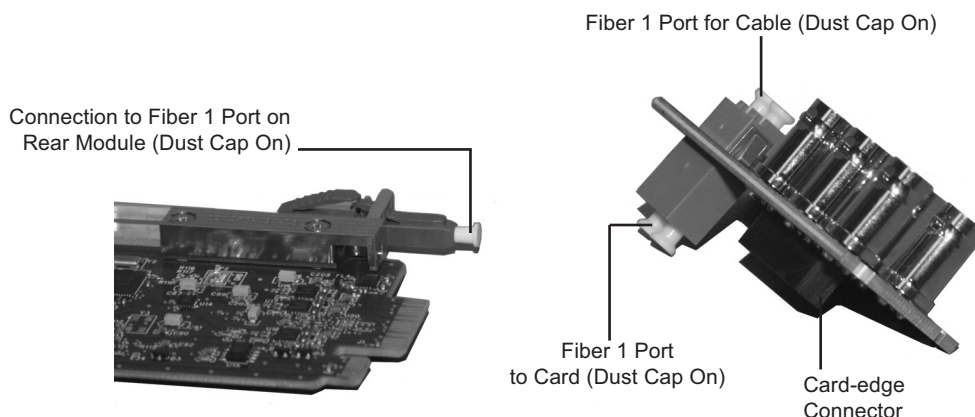
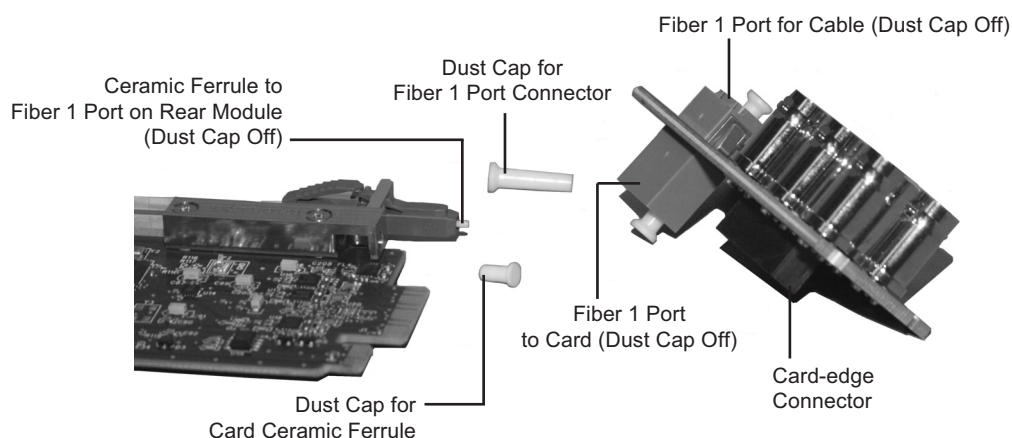
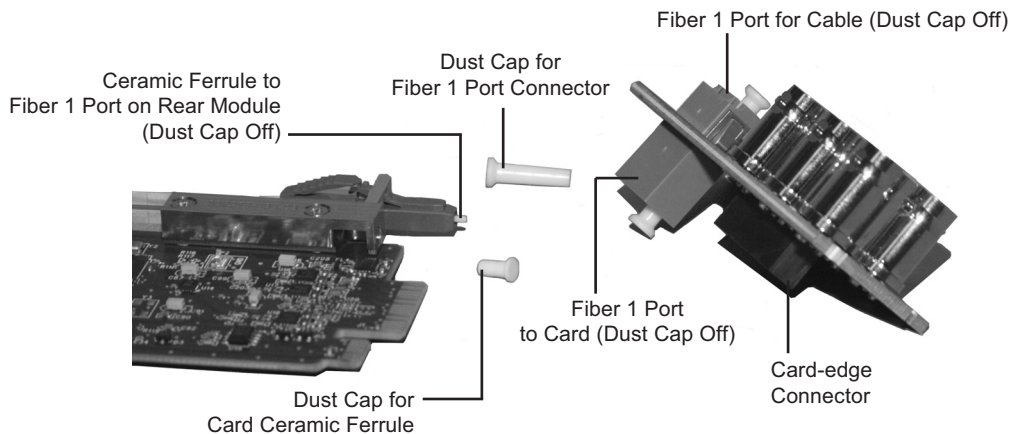

Figure 2.1 Card Connectors with Dust Caps Installed
Figure 2.2 Card Connectors with Dust Caps Removed — DMX-6259-A
Figure 2.3 Card Connectors with Dust Caps Removed — DMX-6259-A
- Connectors must always be inserted into a device or have a dust cap on. Refer to **Figure 2.1** for dust cap locations.
3. Remove the dust caps from the Fiber ports on the rear module that face the interior of the frame. Refer to **Figure 2.1** and **Figure 2.2** for dust cap locations.
- Refer to **Figure 2.1** and **Figure 2.3** for dust cap locations.